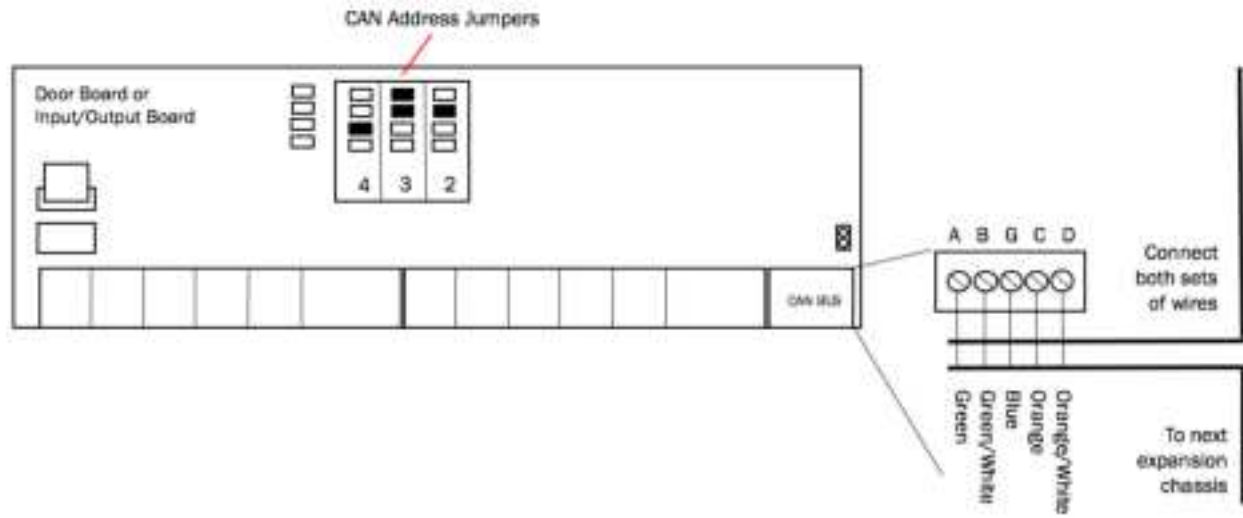

Figure 21 - Wire INPUT OUTPUT BOARD
- Eight (8) relays on the I/O Board. The ratings are 24VDC, 3A each.
- e) The other wire from the ACS6000 is connected to wire 2 from the switch, as shown in Figure 21.